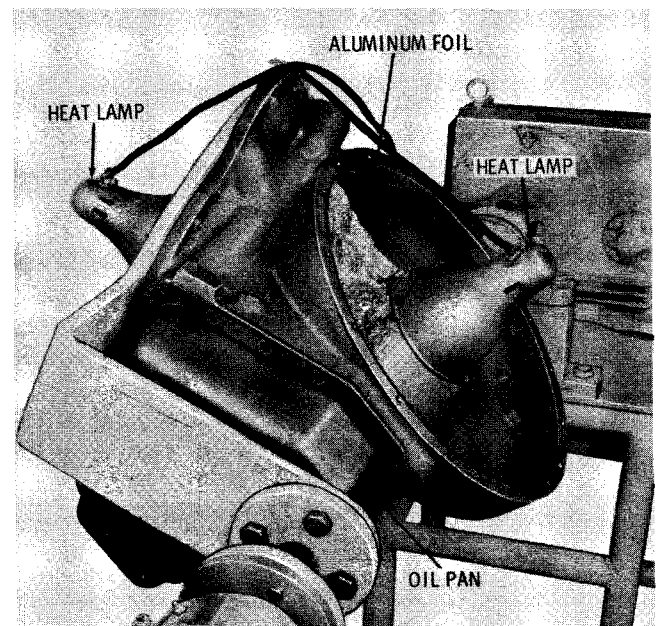

Fig. 7-1. Using heat lamps to expand bearing retainer bores
(1) After rebuilding the main housing (paragraph 6-10), install it in the holding fixture (fig. 7-1). Install two heat lamps (approximately 400 watts), one in the bevel pinion bore and one in the bevel driven gear bore, in the main housing. Insert aluminum foil